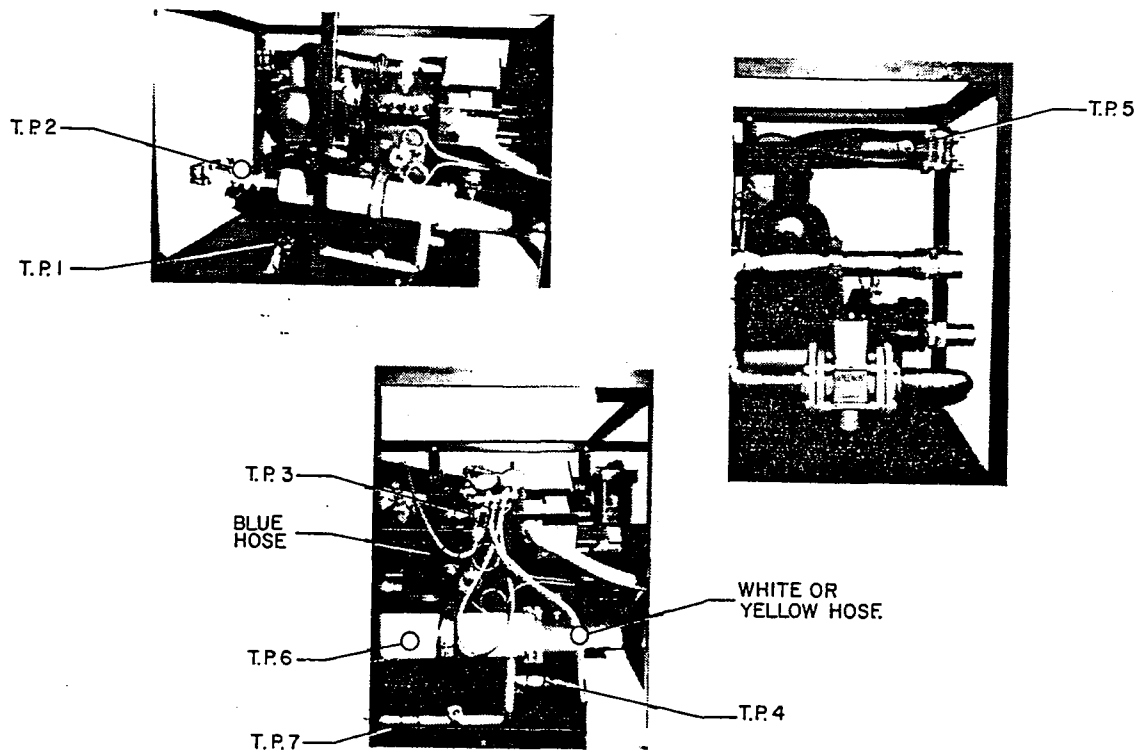

Figure 5-5. Liquid Line Filter Replacement
The liquid-line filter replacement procedure is approximately the same for both the RCU-1 and the RCU-2. Perform the following steps to replace the liquid line filter(s) (refer to Figure 5-5).
6. Attach the manifold gauge at the Aero Quip fitting near T.P. 2 between the liquid line (T.P. 4) and the suction line (T.P.5) of the RCU-1 compressor as shown in Figure 5-5. On the RCU-2 attach the manifold gauge between the liquid line (T.P. 4) and the suction line (T.P. 5). (Blue hose to suction line, and center, white hose to liquid line.) Ensure that the arrow on the Fast Charger points in the direction of the suction line.